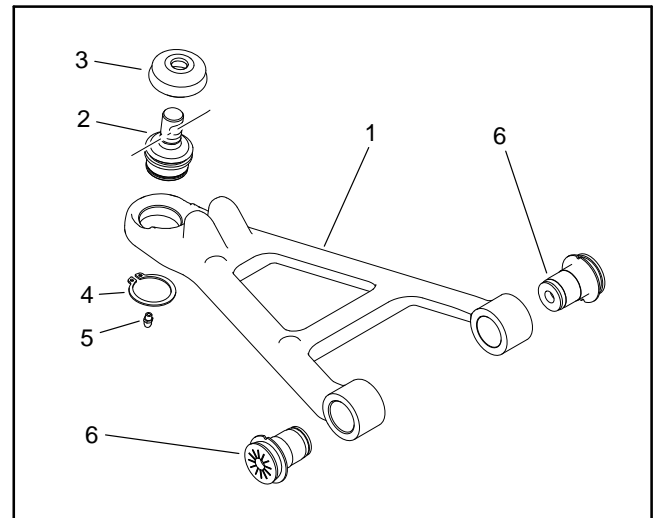

Figure 18
- A. If control arm ball joint or flange bushings are removed, use a suitable press to install ball joint with notch facing inward as shown (Fig. 18). Press flange bushings tight to machined surface of control arm.
- B. Position control arms to the frame and secure to frame with flange head screws, cap screws, flat washers and flange nuts (items 10 thru 15). Do not fully tighten screws and nuts.
- D. Install spindle assembly to the control arms. Tighten cap screws and flange nuts (items 7 and 8) from **40 to 50 ft-lbs (54 to 68 N-m)**.